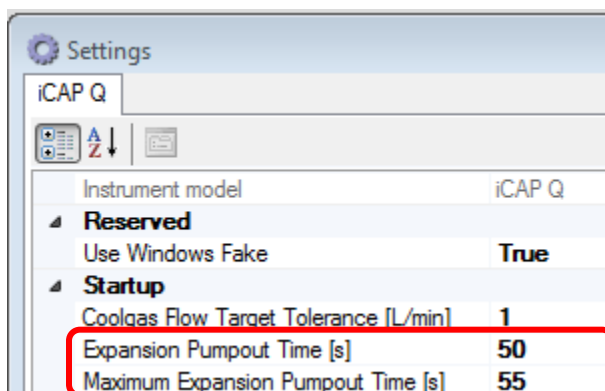

Figure 2: Expansion Pump Time
- f) Scroll down to **Startup** and then locate **Expansion Pumpout Time** and **Maximum Expansion Pumpout Time**, see **red** box in **Figure 2**. The former should be at least 40-55s and the latter should be 5-10s greater. If they are different than these values, please change them